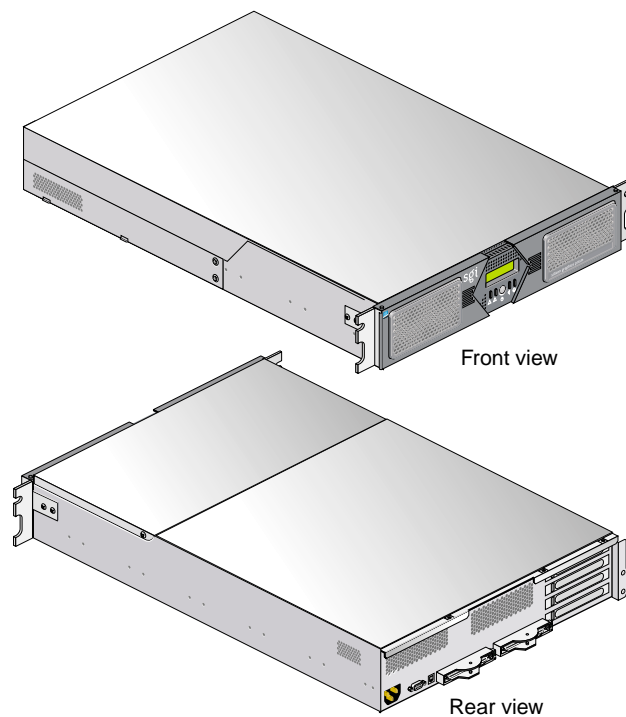

Figure 2-8 CMPX Option Module Front and Rear Views
The CMPX module (see Figure 2-8) is a 2U AC-powered module that offers:
- Four PCI/PCI-X slots (see Figure 2-8)